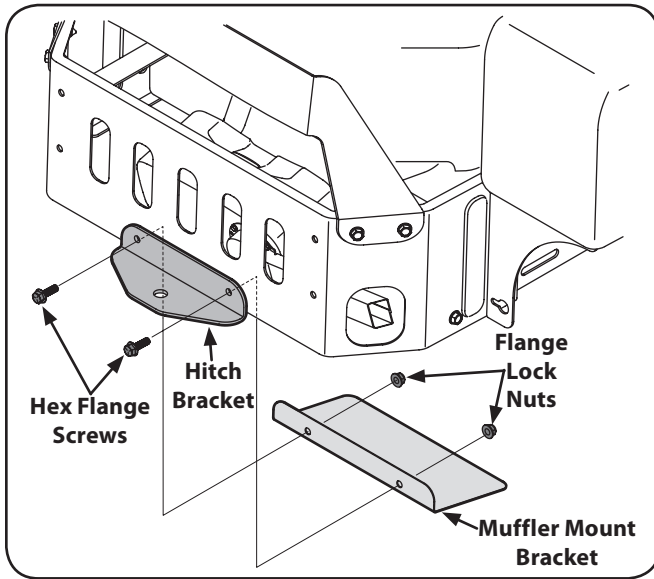

Figure 3-7
2. Install the hitch bracket and muffler mount bracket as shown in Fig. 3-7 and secure with the hex flange screws and flange lock nuts removed in step 1.